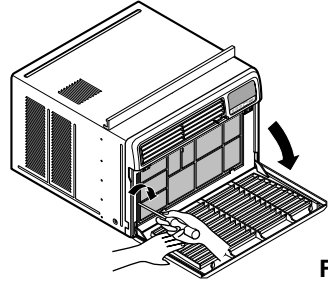

Fig. 10
- 10 Attach the front grille to the cabinet by inserting the tabs on the grille into the tabs on the front of the cabinet. Push the grille in until it snaps into place. (See Fig.10)
- 11 Lift the inlet grille and secure it with a screw (Type A) through the front grille.(See Fig. 10)